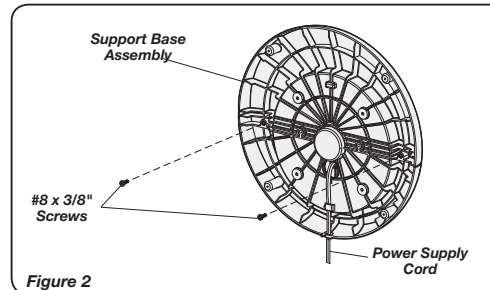

Figure 2
3. Secure (2) #8 X 3/8" screws into the two outer holes in the bottom of the **Base**. (Figure 2)